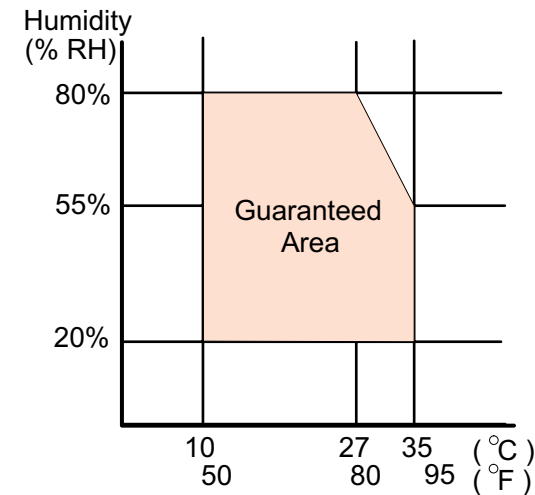

Figure 1-7. Temperature / Humidity of Range
- Temperature: Operating = 10 to 35 °C (See Figure 1-7.)
(See Figure 1-7.)